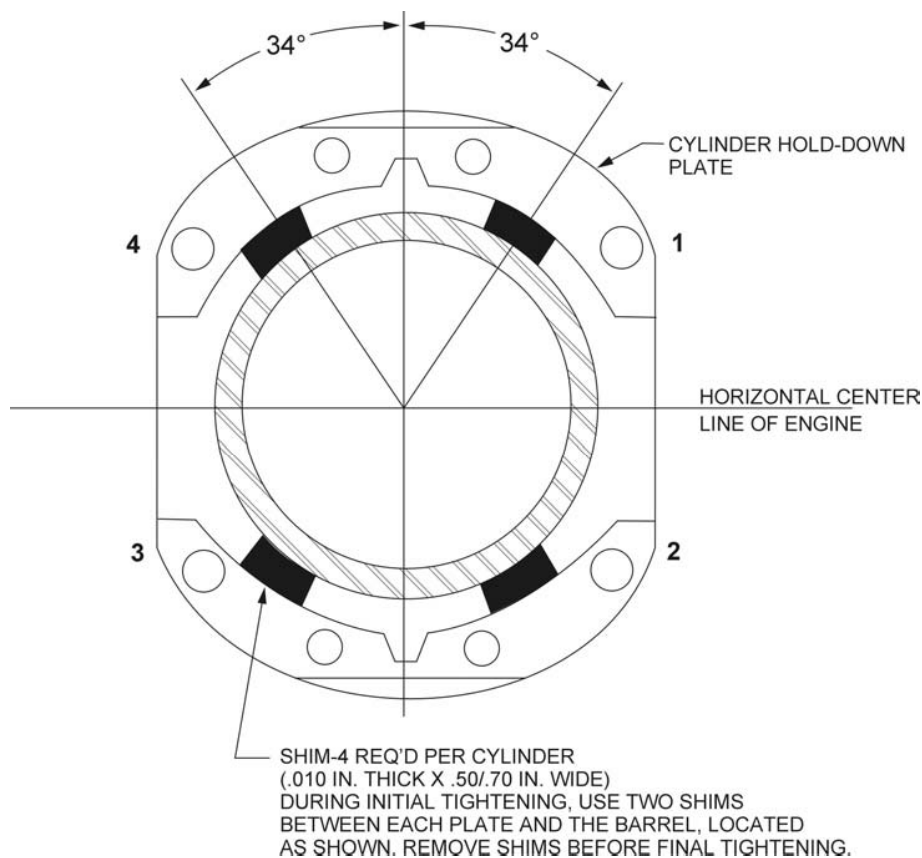

Figure 5-3. Location of Shims Between Cylinder Barrel and Hold-Down Plates (Where Applicable) and Sequence of Tightening Cylinder Base Hold-Down Nuts
- (a) *Engines Using Hold-Down Plates* – Install shims between cylinder base hold-down plates and cylinder barrel, as directed in Figure 5-3, and tighten ½ inch hold-down nuts to 300 in.-lbs. (25 ft.-lbs.) torque, using the sequence shown in Figure 5-3.